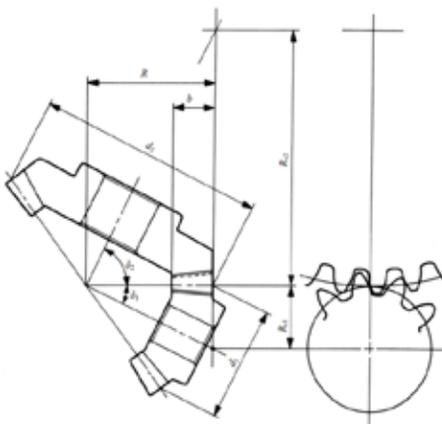

Figure 2: The meshing of bevel gears.
The cone distance (R) is a critical mounting dimension of bevel gearing as it defines the linear distance between the reference points of the intersections of the reference diameters (Figure 2). It has a formula of: